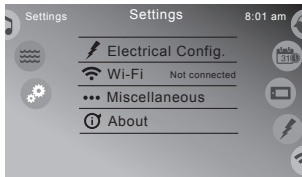
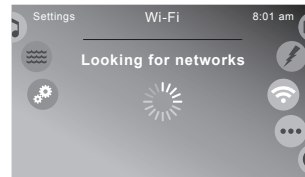

Figure 12.6a
Figure 12.6b
IMPORTANT: The hot tub must have the optional Wi-Fi module installed. Tap the “Wi-Fi” tab, Figure 12.6a, to load the available networks, Figure 12.6b. Make sure that you have the D1 Spa Connect app installed on your device.
2. The display will exit back to Figure 12.6a, and continue the process.